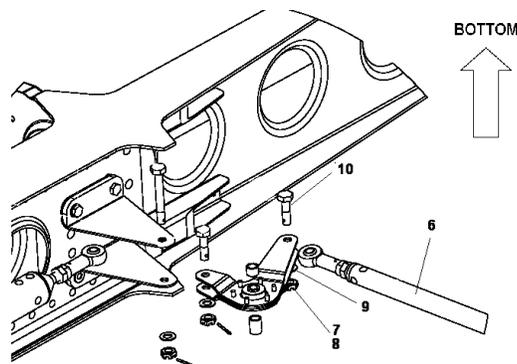

Figure 27-12 Outboard Aileron Push Rod Connection
4. Refer to Figure 27-12. Remove split pin (7) and discard. Remove nut (8), washer (9) and bolt (10) securing end of pushrod to bell-crank (6).